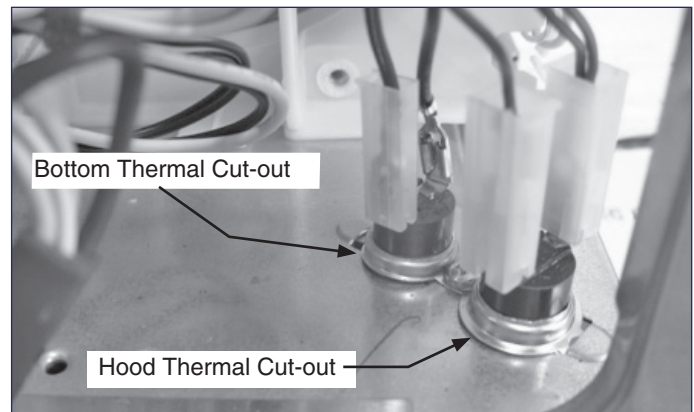

Figure 4-20. Bottom and Hood Thermal Cutouts
3. Remove two wire leads and extract one screw securing cutout on duct. (See Figure 4-20)